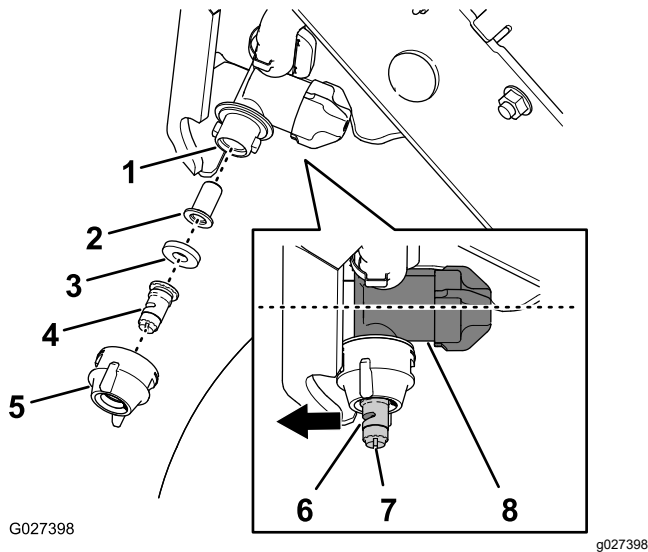

Figure 63
1. Rotate the nozzle cap 90° counterclockwise and remove the cap from the nozzle body (Figure 63).
2. Remove the sprayer tip, gasket, and strainer from the nozzle body (Figure 63).
4. Assemble the strainer into the nozzle body (Figure 63).
5. Assemble the sprayer tip and gasket into the nozzle cap (Figure 63).
6. Install the tip, gasket, and cap onto the nozzle body (Figure 63).
Note: Use the slot to rotate the atomizer (Figure 63) of the sprayer tip forward (in-line with the flow-regulator case of the nozzle body).
7. Rotate the nozzle cap 90° clockwise (Figure 63).